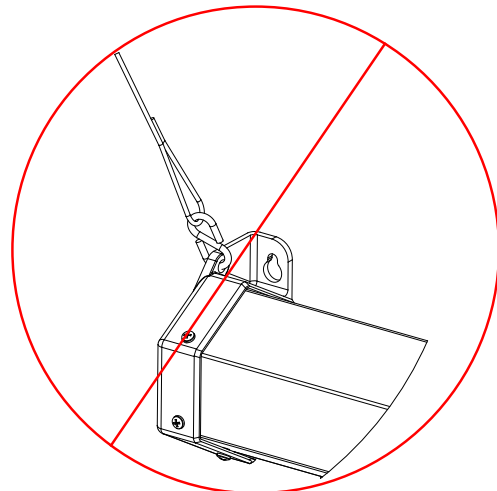

Figure 3
**NOTE: DO NOT** hang from the end caps at an angle. See Figure 3.